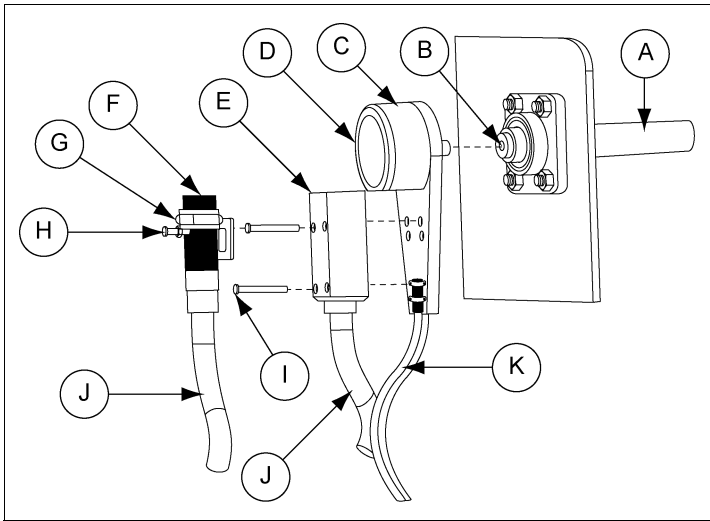

Figure 8A
- 2. Thread the Whirligig onto the machine shaft using 5/8" open ended wrench and suitable thread locking adhesive (loctite or similar). (See Figure 8A.)
- 3. Install the sensor to the Whirligig base plate. Two (2) sets of pre-drilled holes are provided for M800 sensor. Fit the sensor to leave an approximate 2 mm gap between sensor face and cover. A universal bracket (WGB18/30) is supplied for fitting 18 mm or 30 mm sensors.